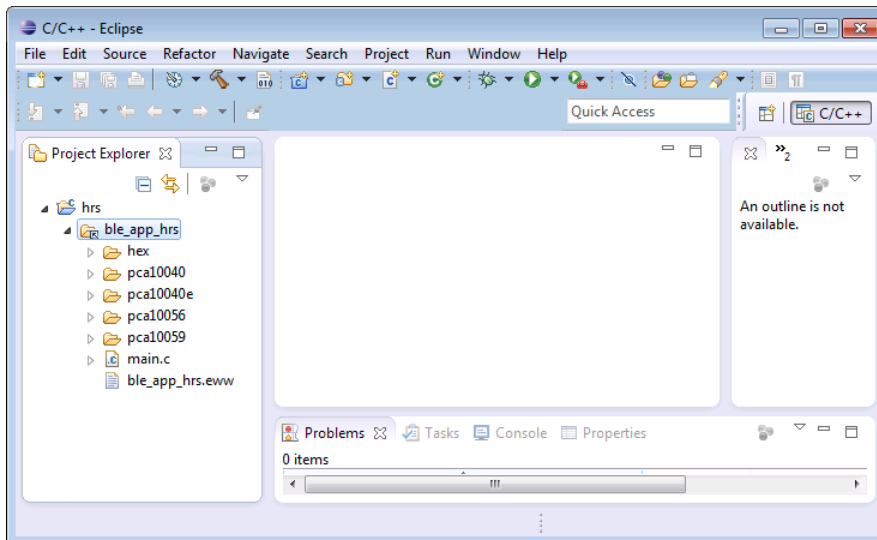

Figure 20: Project files and folders added in Project Explorer
9. The header and source files should now appear within the project (Figure 20).